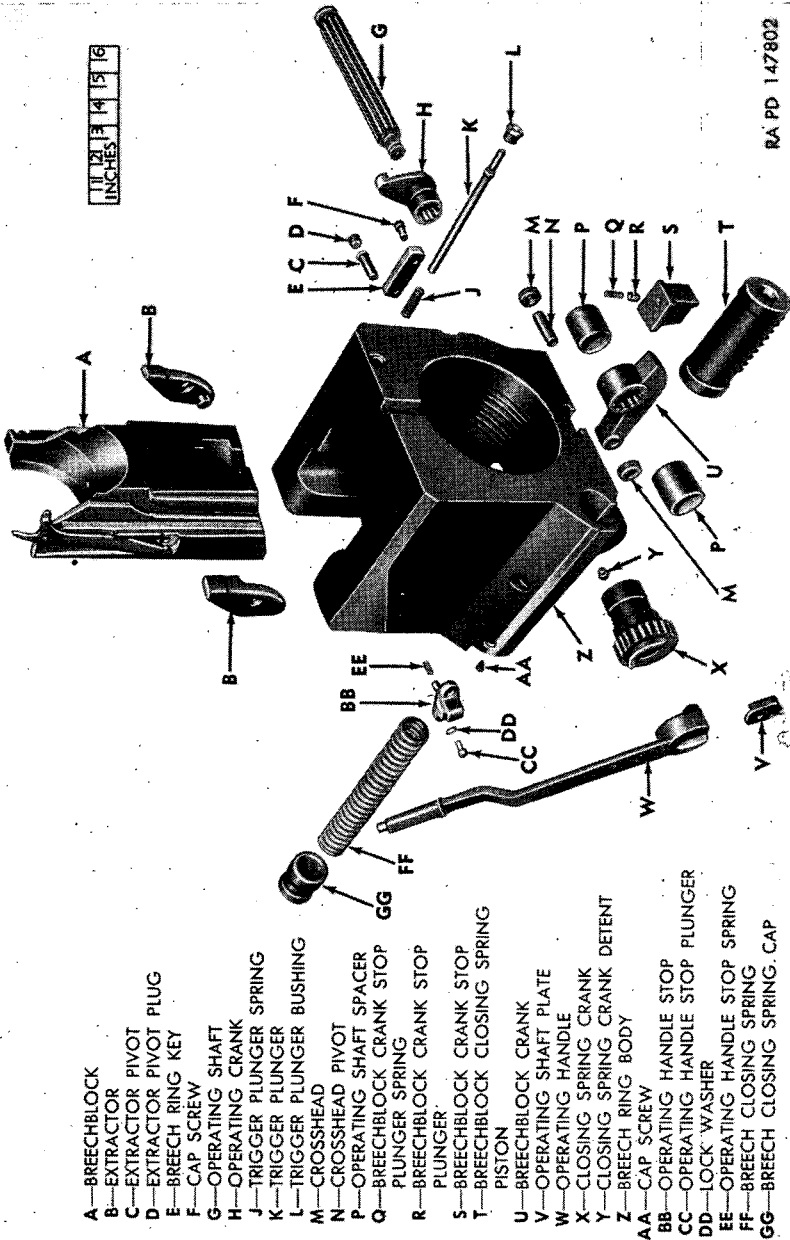

Figure 345. Breech ring—exploded view.
b. BREECH RING. The breech ring body (fig. 345) houses the breechblock, firing parts, extractors, and breech operating parts.
- crank. With a small screwdriver, push up on the breechblock crank stop plunger (fig. 345) through the vertical hole in the breechblock crank stop, sliding the stop forward enough to free it from the plunger. Withdraw screwdriver and push stop forward to clear the breechblock. Remove the cap lock screw and loosen the closing spring cap with face-type spanner wrench 41-W-3247-720 until the spring pressure is released. Support the eyebolt; take out the breechblock removing tool, and lower the breechblock until the breechblock crank is disengaged, and the extractors can be removed. Remove the extractors from the their breech ring pivots and then lift the breechblock out of the breech ring recess, being certain that the trigger plunger is not depressed.
- (2) Using the face-type spanner wrench 41-W-3247-720, unscrew the closing spring cap in the rear face of the breech ring and remove the closing spring (fig. 345). Depress the exposed plunger button in the right end of the breech operating shaft and remove the operating shaft plate (fig. 345) from the operating handle hub. Depress the operating handle plunger and remove the handle off the right end of the shaft. Push on the handle end of the shaft and slide the shaft out of the left bottom breech ring lug and remove the
After the operating shaft has been removed, unscrew the two detents in the rear of each breech ring lug. Remove the operating crank from the left lug of the breech ring and the closing spring crank from the right breech ring lug (fig. 345). Push the closing spring piston out of the front of the closing spring bore. Slide the crossheads from the breechblock crank pivot if necessary.
- (1) *Trigger plunger.* The trigger plunger group, which activates the trigger, need not be removed in ordinary maintenance but only to replace unserviceable parts or correct a malfunction. Unscrew the trigger plunger bushing (fig. 345), using wrench 41-W-3735-510 (fig. 85), from the front face of the breech ring. Remove the plunger and spring from their bore in the breech ring.
- (2) *Breech ring key.* To remove the breech ring key (fig. 345), unscrew the two socket head cap screws which fasten the key to the left side of the breech ring and remove the key.
- (3) *Operating handle stop.* To remove the operating handle stop (fig. 345), unscrew the two socket head cap screws which fasten the stop to the right side of the breech ring. Remove the screws, washers, and stop, being careful to catch the spring and plunger seated in the stop as the stop is being removed.
- (4) *Extractor pivots.* To remove the extractor pivots (fig. 345), unscrew the two plugs, one in the right, and one in the left side of the breech ring, and push the pivots out of their holes.
- (5) *Operating handle plunger.* To remove the operating handle plunger, punch out the transverse pin in the handgrip of the operating handle. Remove plunger and spring from the end of the operating handle.
- (6) *Extractor plunger.* To remove the extractor plunger, unscrew the small pin set screw in the flat face of the extractor allowing the plunger and spring to be lifted out of the extractor trunnion.
- (7) *Operating shaft plunger.* To remove the operating shaft plunger, depress the plunger into the shaft and smooth the four stake marks at the outside shoulder of the hole. Remove plunger and spring from the shaft.